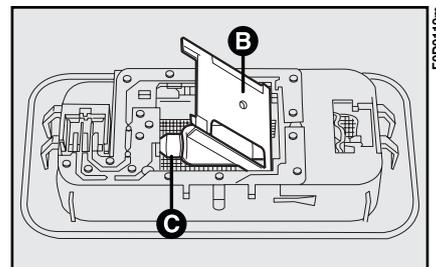

fig. 32
2) Lift the cover **B**-fig. 32 and remove the bulb.